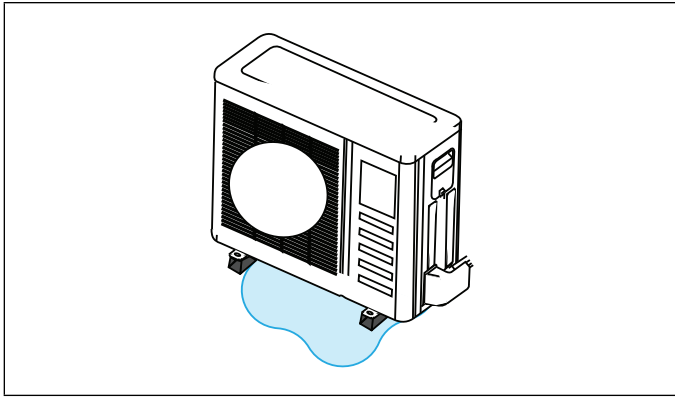

Figure 9. Avoid Defrost Water Ice Hazard
- Carefully consider how to manage defrost water disposal to prevent ice from blocking walkways or creating a safety hazard near the outdoor unit as illustrated in “Figure 9. Avoid Defrost Water Ice Hazard” on page 22.